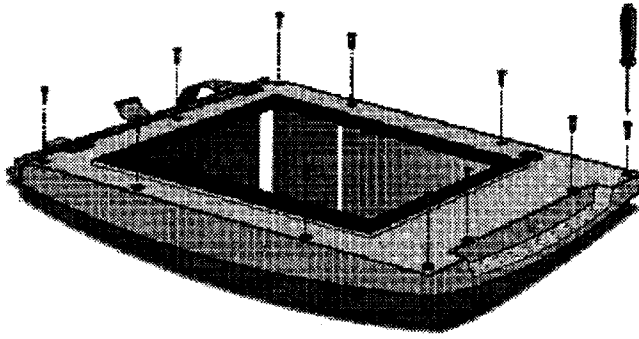

Fig. 5.4 Removing the screws.
5. Remove the 11 screws as indicated in Figure 5.4.